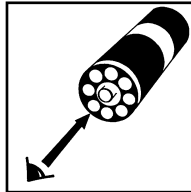

Figure 4
6. Place the ULR CHEMet ampoule, flat end downward into the center tube of the comparator. Direct the top of the comparator up toward a source of bright light while viewing from the bottom. Rotate the comparator until the color standard below the ULR CHEMet ampoule shows the closest match (fig 4). If the color of the ULR CHEMet ampoule is between two color standards, a concentration estimate can be made.